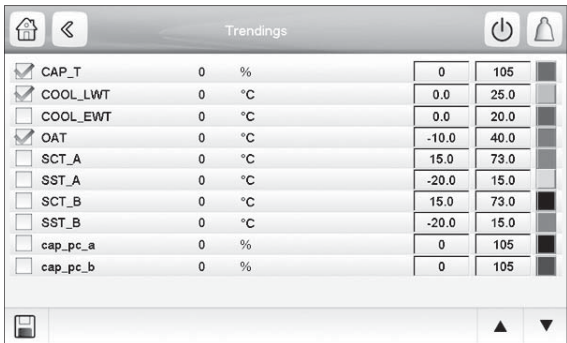

Fig. 10 — Trendings Screen, Page 1
**TRENDINGS SCREEN** — The Trendings screen allows for easy monitoring of parameters selected by the user. To access the Trendings screen, select Trendings on the Main Menu. See Fig. 10.